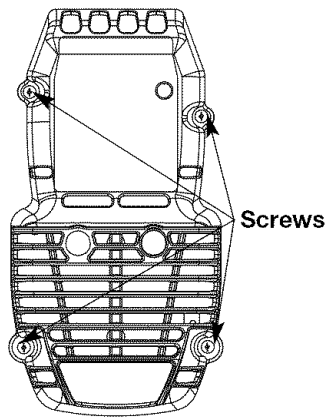

Fig. 17
1. Remove the four (4) screws securing the air filter/muffler cover (Fig. 17). Use a flat blade or T20 Torx bit screwdriver.
2. Insert the four (4) screws into the holes in the air filter/muffler cover (Fig. 17) and tighten. **Do not over tighten.**
- Reinstall the air filter/muffler cover (Fig. 17).